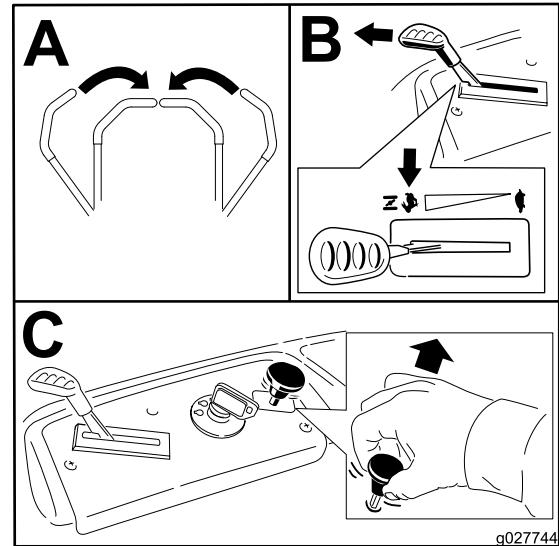

Figure 13
Note: Always engage the blades with the throttle in the Fast position (Figure 13).
2. Move the throttle lever to the Slow position (Figure 13).